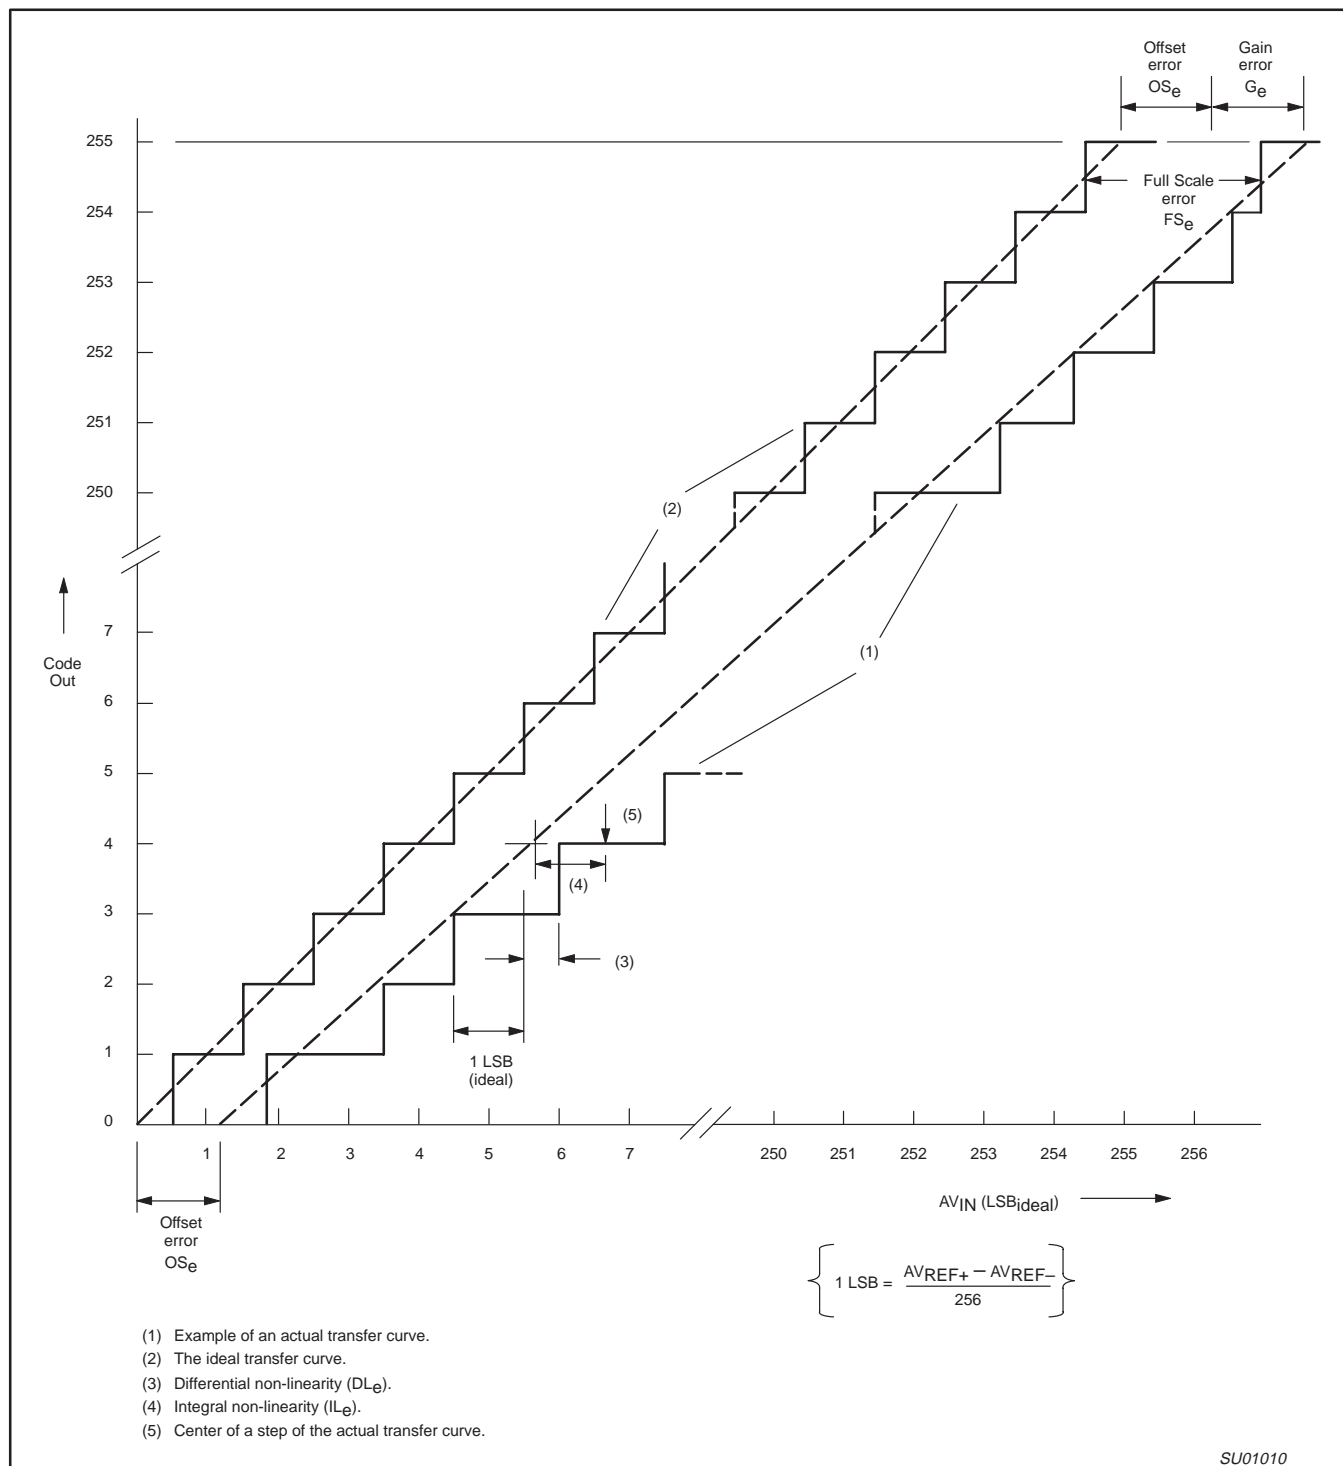

Figure 7. ADC Conversion Characteristic
- The differential non-linearity (DL_e) is the difference between the actual step width and the ideal step width. See Figure 7.
- The integral non-linearity (IL_e) is the peak difference between the center of the steps of the actual and the ideal transfer curve after appropriate adjustment of gain and offset errors. See Figure 7.
- The offset error (OS_e) is the absolute difference between the straight line which fits the actual transfer curve (after removing gain error), and the straight line which fits the ideal transfer curve. See Figure 7.
- The gain error (G_e) is the relative difference in percent between the straight line fitting the actual transfer curve (after removing offset error), and the straight line which fits the ideal transfer curve. Gain error is constant at every point on the transfer curve. See Figure 7.